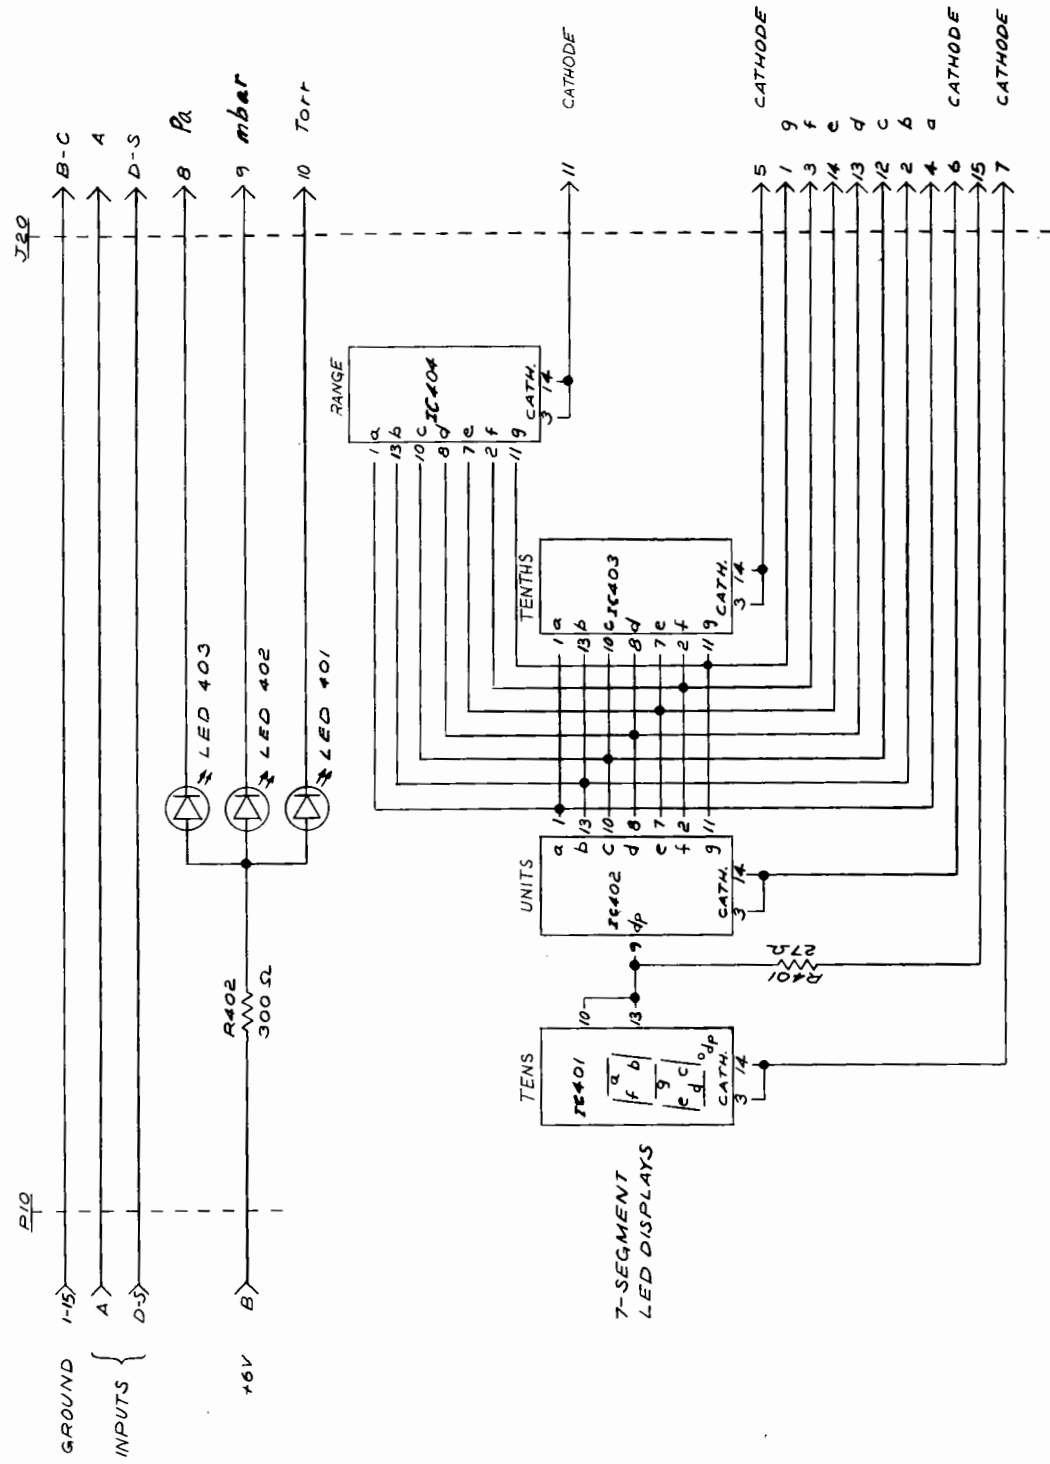

FIG.5-10 DIGITAL DISPLAY SCHEMATIC
5.13 Digital Display (Refer to Fig. 5-10)